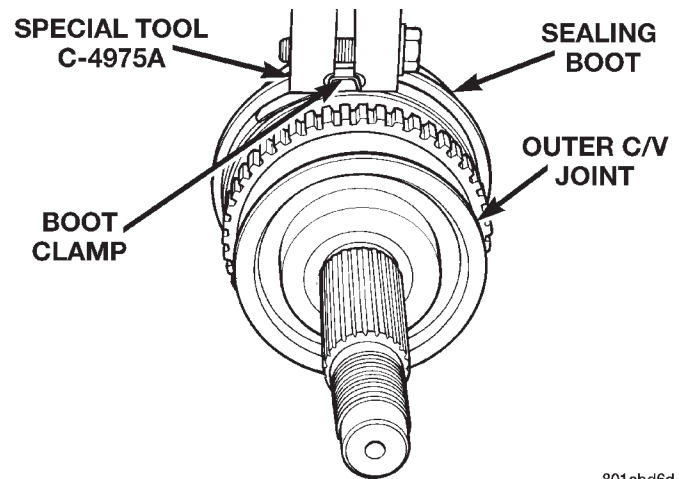

Fig. 9 Crimping Tool Installed On Large Boot Clamp PINION SHAFT SEAL
(8) Clamp large sealing boot clamp onto axle shaft using Crimper C-4975-A. Place crimping tool C-4975-A over bridge of clamp (Fig. 9).
(9) Tighten nut on crimping tool C-4975-A until jaws on tool are closed completely together, face to face.